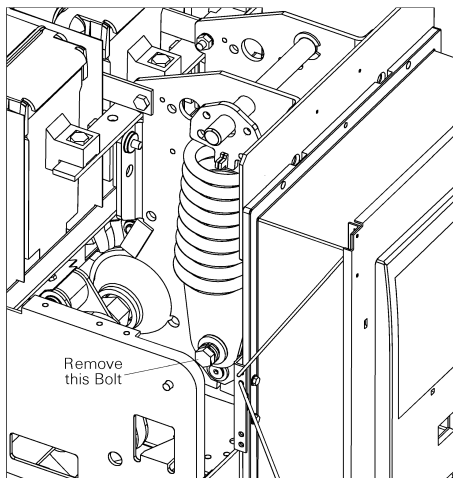

Figure 5. Disconnecting the closing spring assembly.
2. The closing spring must be isolated from the mechanism camshaft. Make sure that the breaker mechanism is DISCHARGED and the spring is at minimum extension, then remove the hex-head bolt shown in Figure 5 to disconnect the lower spring assembly from the mating camshaft linkage.